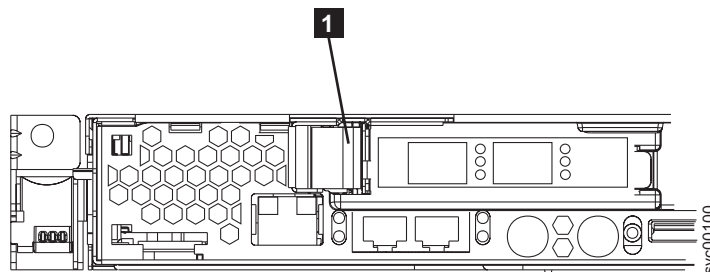

Figure 140. PCI slot 1 card retainer
- a. Pull the blue PCI card retainer **1** from the rear of the node. See Figure 140.